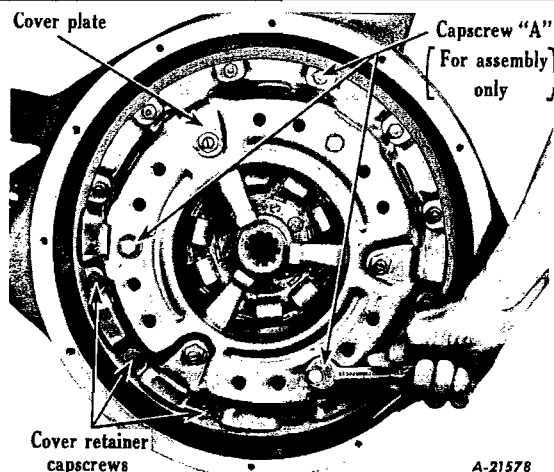

Fig. 52
6. **INSTALL CLUTCH.** Install clutch driven disc against flywheel so that the long portion of the hub is toward the rear. Place clutch in position on flywheel over clutch driven disc. Locate clutch so that arrow or inspection mark (usually a dab of white paint) on flange of clutch backing plate or cover is as near as possible to the letter "L" on the flywheel, and install two or three mounting capscrews and lockwashers loosely. Insert a clutch aligning arbor, if available, or a transmission main drive gear shaft, through clutch driven disc hub spline and into clutch pilot bearings. Hold clutch driven disc in position while completing installation of twelve mounting capscrews and lockwashers in flange of clutch backing plate or cover. Tighten all twelve capscrews alternately, evenly and securely. Remove three retaining capscrews and flat washers which were installed to hold clutch compressed (Fig. 52). **NOTE:** Clutch will not operate properly unless these retaining capscrews are removed.